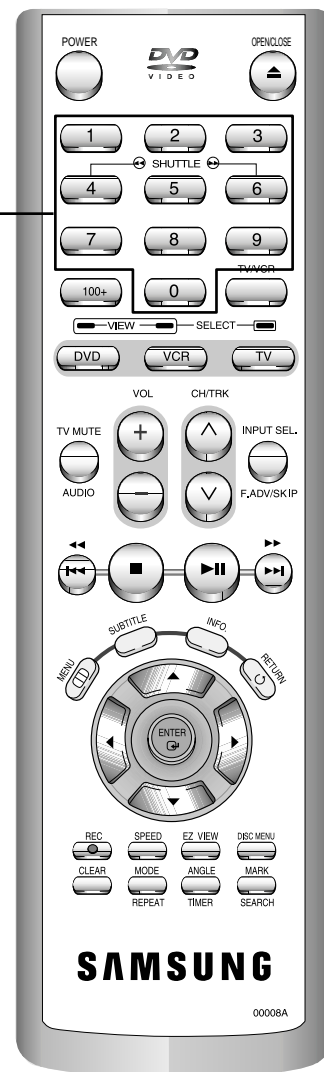

Fig. 2-1
- 3) Press the “1, 0” buttons; remote control adjustment operates automatically. (See Fig. 2-1)
- 3) Press the “0, 5” remote control buttons, then adjustment is operates automatically. (See Fig. 2-1)